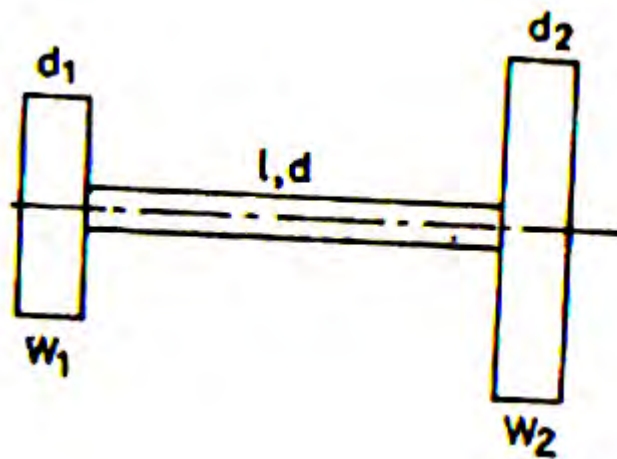

Figure 6:
6. Calculate the natural frequencies of a shaft of diameter 10 cm and length 300 cm carrying 2 discs of diameter 125 cm & 200 cm respectively at its ends and weighing 480 kg & 900 kg respectively as shown in figure 6. Modulus of rigidity of the shaft may be taken as $G = 2 \times 10^6 \text{ kgf/cm}^2$. [16]